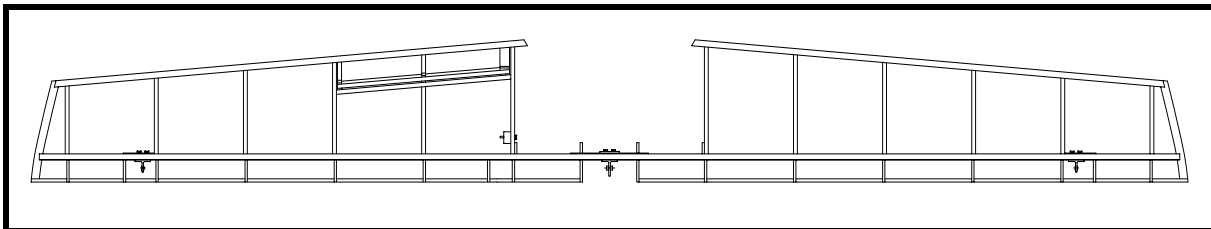

Figure 8
- ❑ Install the elevator tip bows, P/N 403-2. See Figure 8.